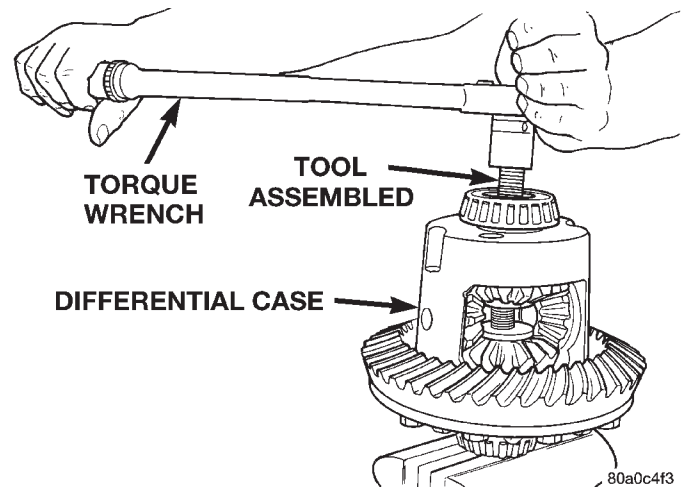

Fig. 60 Tighten Belleville Spring Compressor Tool
- (9) Tighten forcing screw tool 122 N·m (90 ft. lbs.) maximum to compress Belleville springs in clutch packs (Fig. 60).